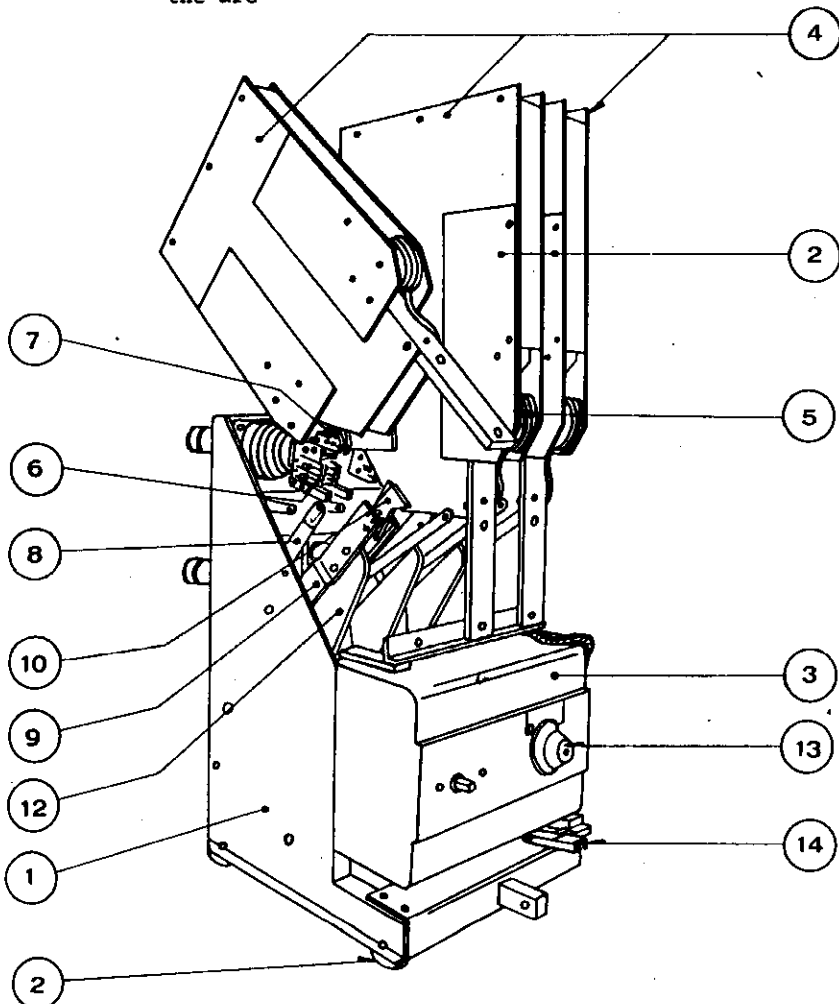

Fig. 1
1. DESCRIPTION (fig 1 and 2)
by operating the racking-in lever; it is also provided with the relevant pedal locking device (14)(fig 1).